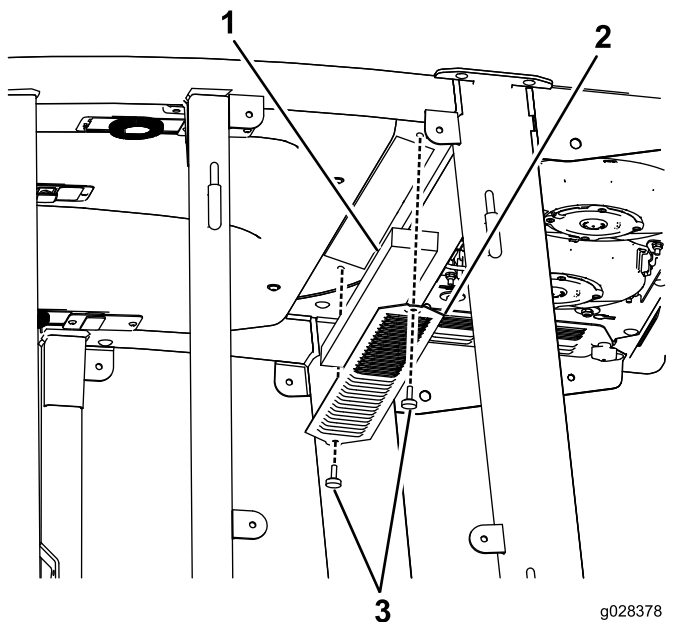
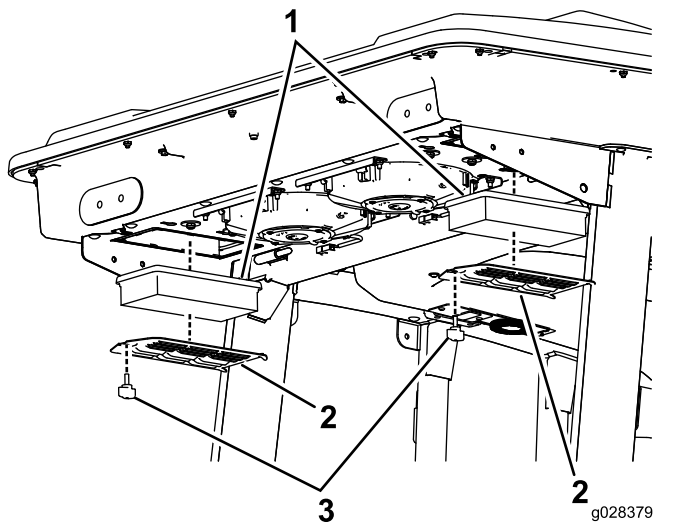
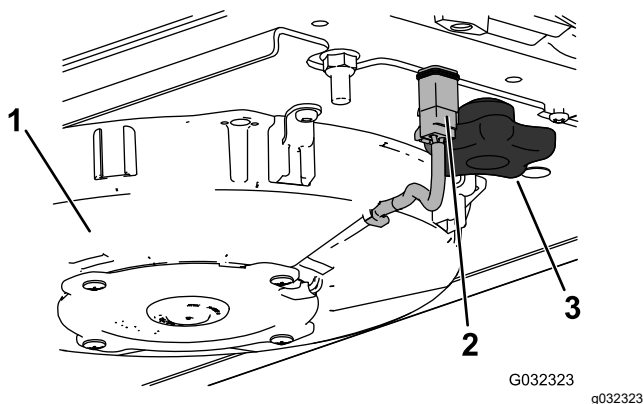
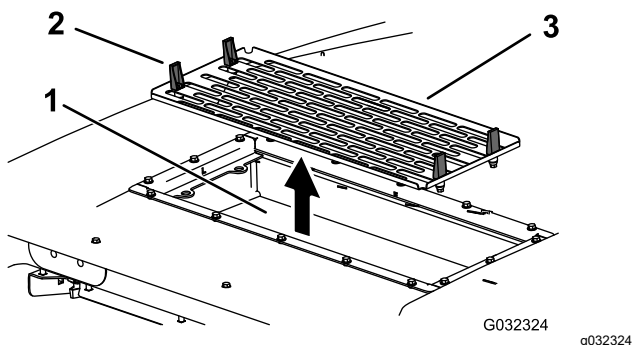

Figure 93
Figure 94
Figure 96
Figure 97
1. Remove the screws and grates from both the in-cab and rear cab air filters (Figure 93 and Figure 94).
4. Remove the air filters (see Figure 94).
6. Install the air filters, screen, and fan assembly (Figure 94, Figure 96, and Figure 97).
7. Connect the wire for each fan (Figure 96).